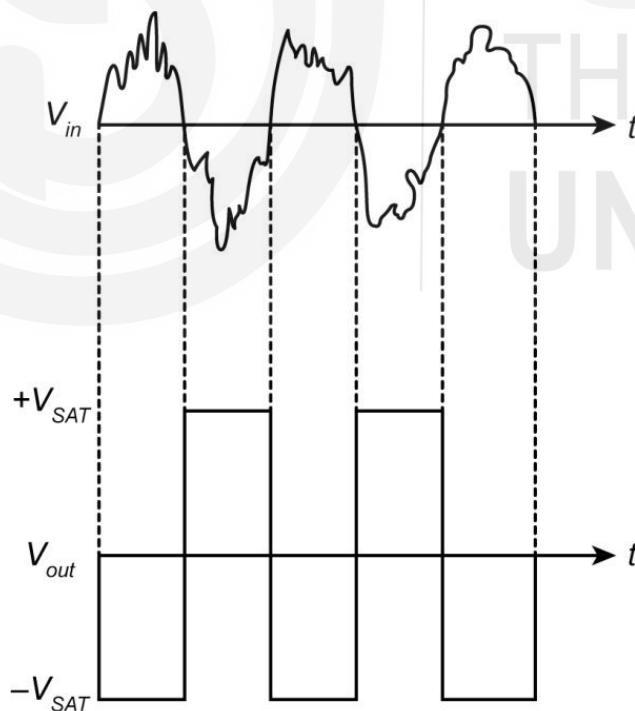

Fig. 14.26: Output of a zero crossing detector.
1. The waveform is shown in Fig. 14.26.